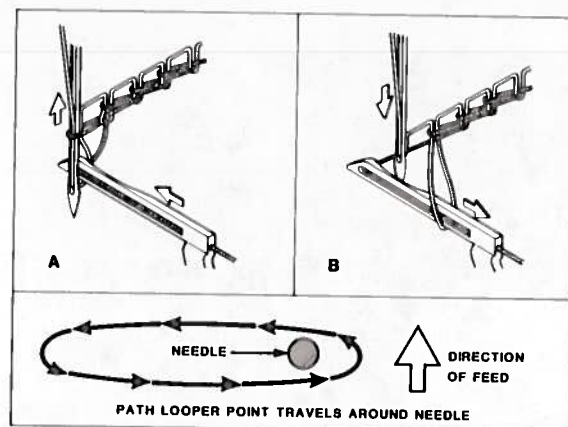

Fig. 17
To form stitch type 401, the looper moving to the left passes to rear of needle and enters the thread loop formed as needle rises (A, Fig. 17). Traveling to the right, looper passes to front of descending needle which enters a triangle formed by the looper thread, blade of looper and needle loop around looper blade (B).
This front to rear movement of looper is termed "AVOID MOTION". Avoid motion of the looper occurs in unison with its right and left travel. As a result, the looper point travels in an elliptical path as shown in Fig. 17.